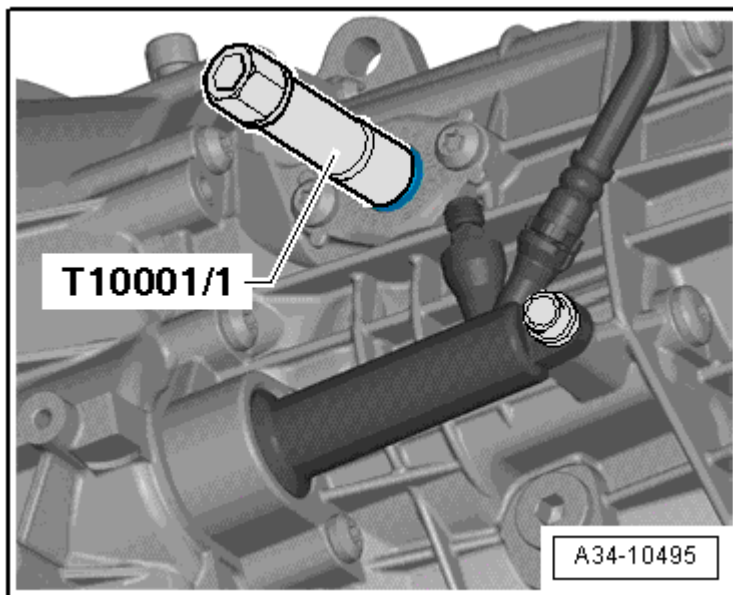

Fig. 65: Gearshift Shaft Seal, Removing and Installing
- Selector shaft seal, removing and installing, refer to **Fig. 65**
1. Selector shaft seal, removing and installing, refer to **Fig. 65**